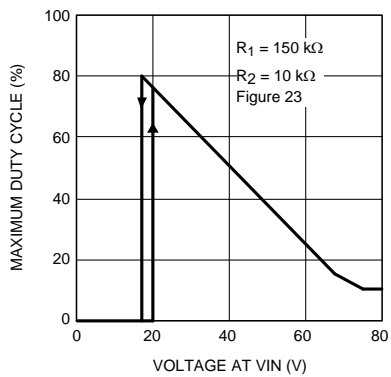

Figure 10. Maximum Duty Cycle vs.  $V_{IN}$  (Figure 24)
**Line Voltage Maximum Duty Cycle.** The voltage at the UVLO pin, normally proportional to the voltage at  $V_{PWR}$ , further limits the maximum duty cycle at high input voltages. Referring to Figure 10, when the UVLO pin is below 1.25V, the outputs are disabled. At  $UVLO = 1.25V$  the maximum allowed duty cycle is 80% (or less if limited by the DCL resistor). As the UVLO pin voltage increases with  $V_{PWR}$ , the maximum duty cycle decreases, reaching a minimum of 10% at  $\approx 4.5V$ . Referring to the UVLO voltage, after passing through an inverting gain stage, is compared to the Ramp1 and Ramp2 signals generated by the oscillator. The output of these comparators are the MaxDC1 and MaxDC2 timing signals. These signals are provided to the two 4-input AND gates which limit the PWM pulses delivered to the output drivers.